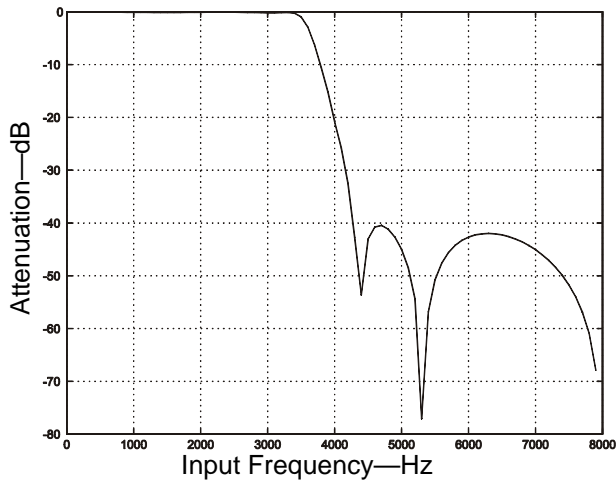
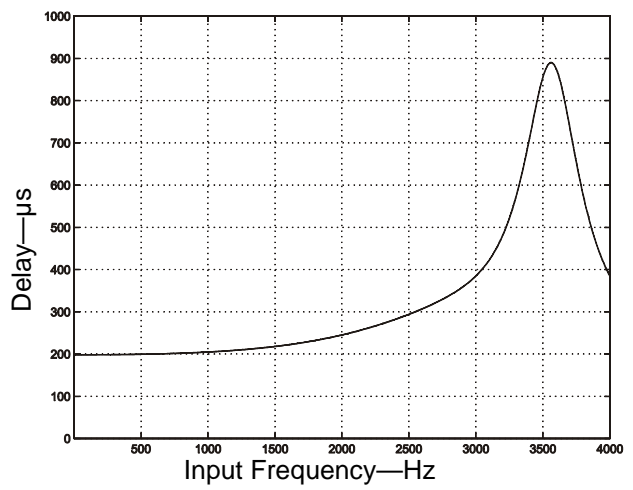

Figure 7. IIR Receive Filter Response
Figure 11. IIR Receive Group Delay
**Note:** Typical IIR filter characteristics for  $F_s = 8000$  Hz are shown in Figures 7, 8, 9, and 10. Figures 11 and 12 show group delay versus input frequency.
For Figures 7–10, all filter plots apply to a sample rate of  $F_s = 8$  kHz. The filters scale with the sample rate as follows: